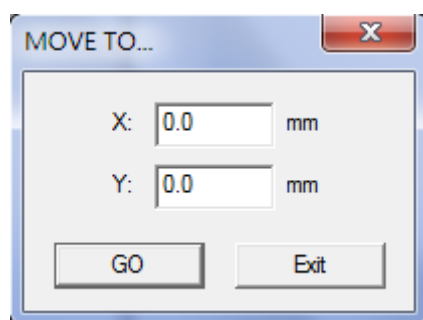

Fig. 7.2.02
1. Click “MOVE TO...” button and then input the X and Y values in the dialog box like Fig.7.2.02 and click “GO,” the XY Table will move to that specific position. The moving speed can be adjusted from “Speed” parameter.